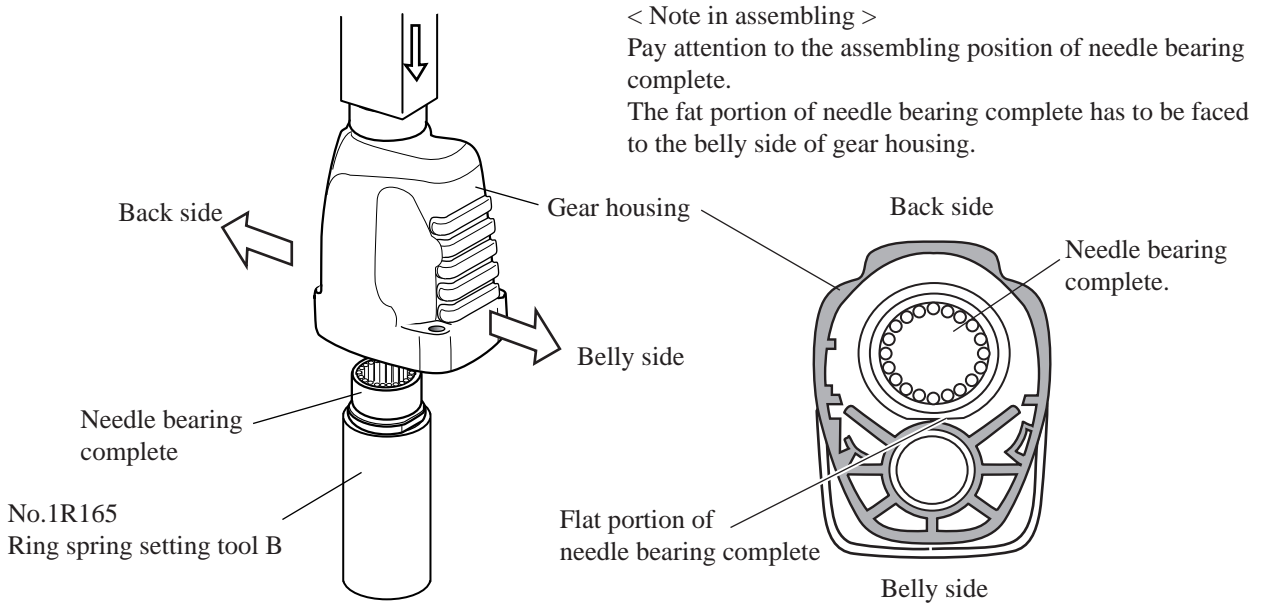

Fig. 14
2. Putting needle bearing complete on No.1R165 "Ring spring setting tool B" press gear housing onto the needle bearing complete with arbor press as illustrated in Fig. 14.